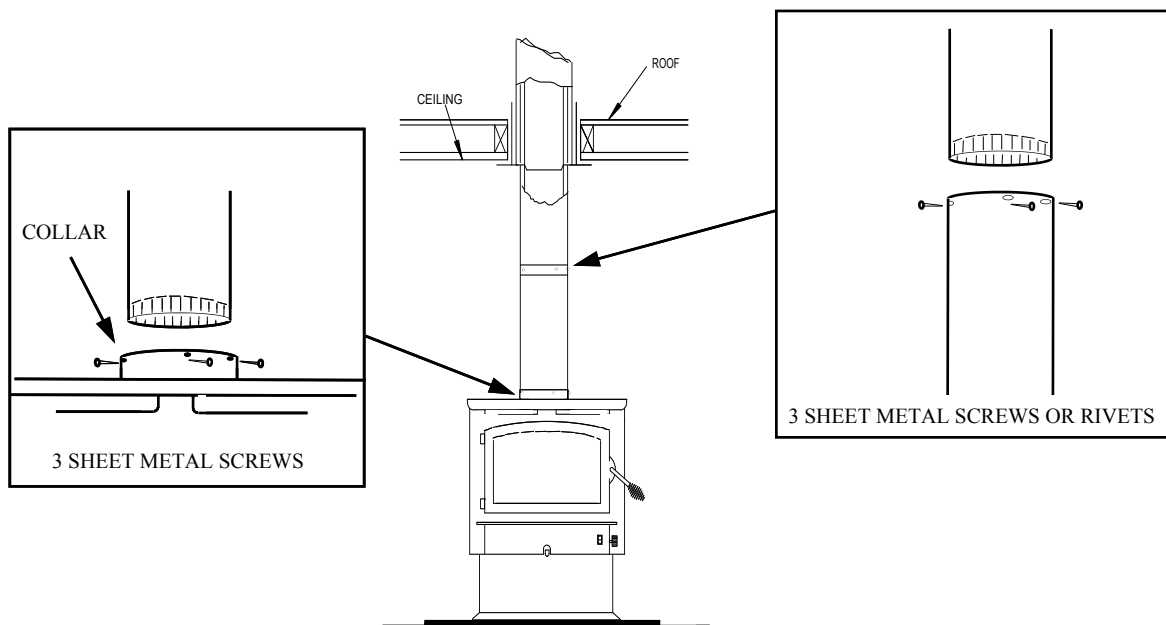

Figure 13
4. Using only double wall chimney connector listed in this manual (See Page 17), connect the heater to the chimney by following chimney manufacturer's installation instructions exactly. (See Figure 13.)